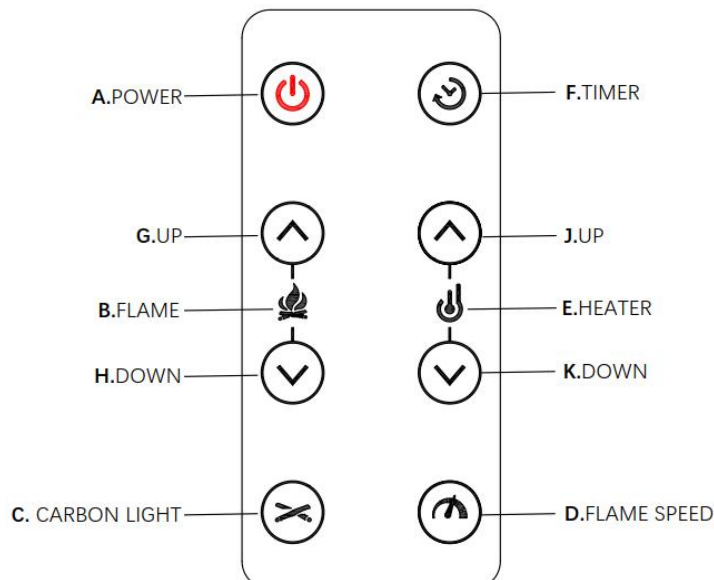

Figure 4
■ **TIMER (Figure 4.F)**
- Press the TIMER button to set the turn off time between 0.5H to 9H. Upon the required turn off time is set, the display(E) will flash 5 times and exit from setting status.
■ **FLAME SPEED (Figure 4.D)**
■ **UP/DOWN (Figure 4.G/H)**
■ **UP/DOWN (Figure 4.J/K)**